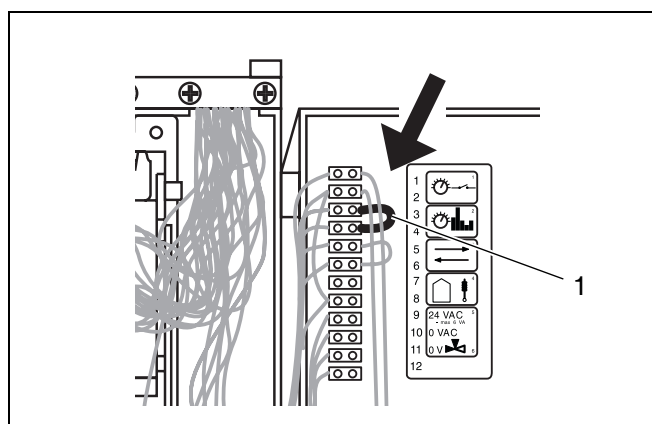

Fig. 22 Connection box in burner-control unit - 24 Volt connection
- A modulating room-temperature control device at 24 Volt connected to the connection plate (fig. 22, item 1) such as the 250 RF ModuLink and the iRT controllers.
- Connect the 24 Volt modulating room-temperature control device at fig. 22, item 1 on pin 3 and 4.